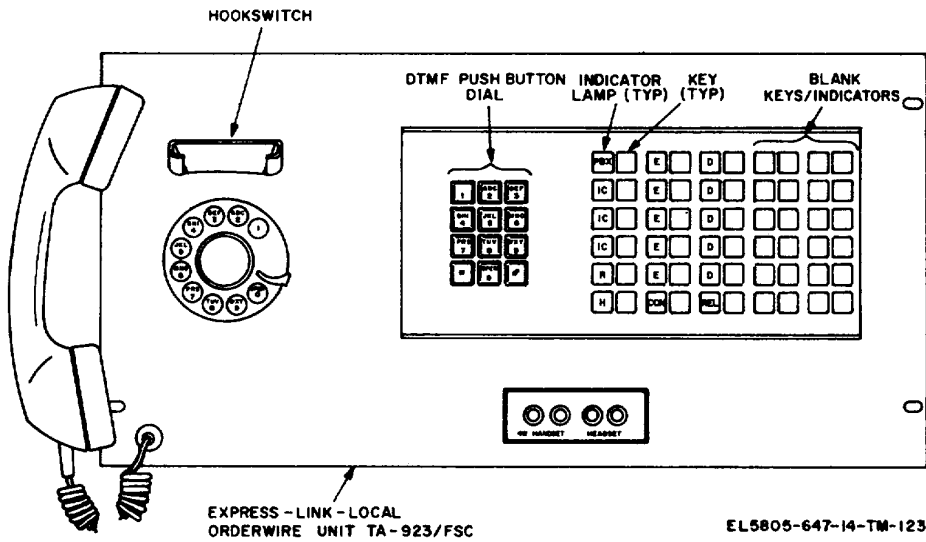
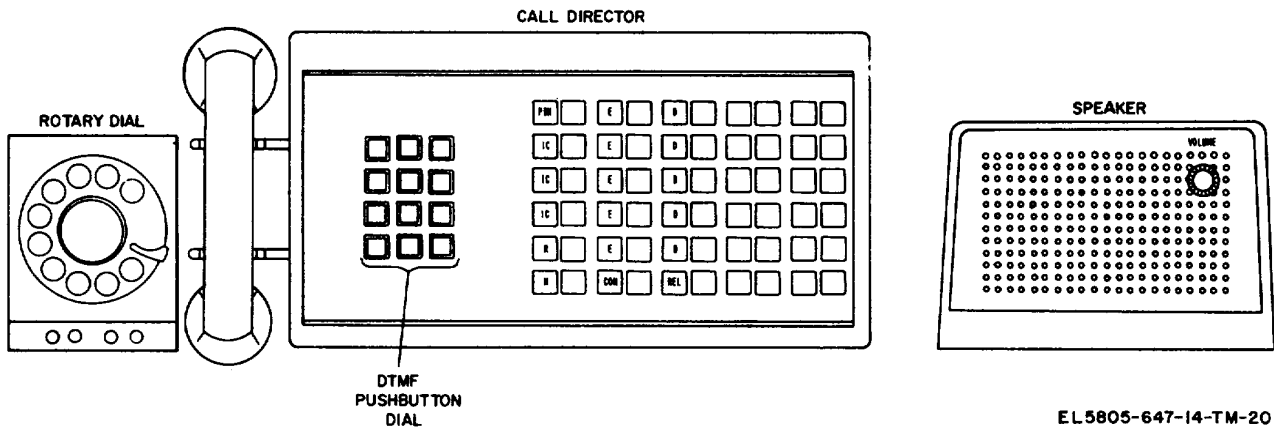

Figure 3-1. Express-Link Local Orderwire Unit TA-923/FSC, controls and indicators (front view).
Figure 3-2. Express-Link Local Orderwire Unit TA-928/FSC, controls and indicators (front view).
- a. Operator's Access Units (Desk Type and Rack Type) (fig.3-1 and fig. 3-2).